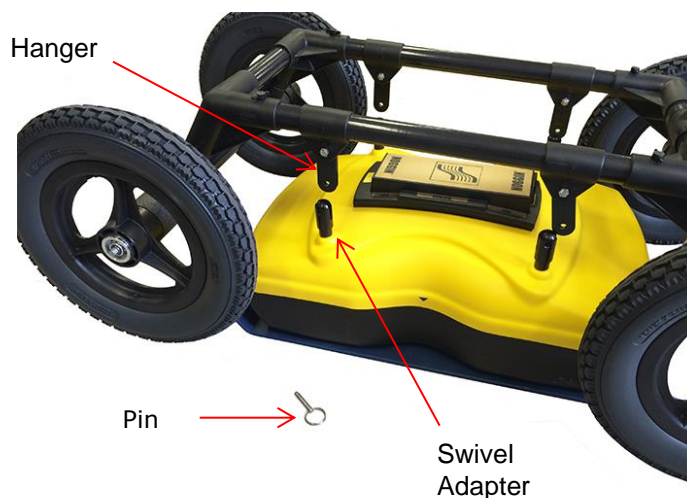

Figure 2-24: Attaching the Noggin 250 to the SmartCart
4. On the bottom of the cart, locate the four oval, moveable hangers suspended from the separation bars of the cart. Each hanger has a hole in it (Figure 2-24).